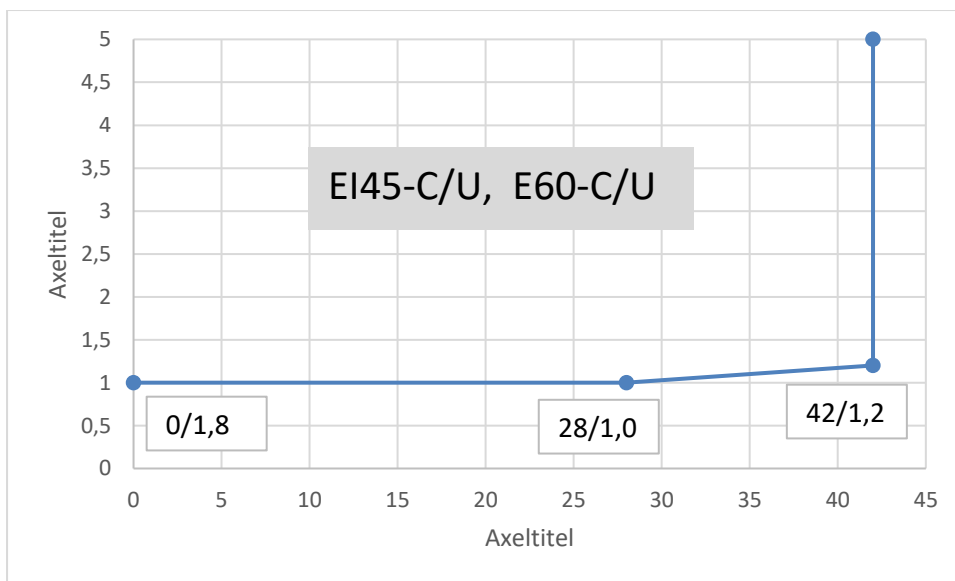

Figure 112: Metal pipes, FEF insulated, penetrating CFS-CT HDB, sealed with CFS-IS
Classification shown in Figure 112 is valid for:
- For dimension refer to Figure 112